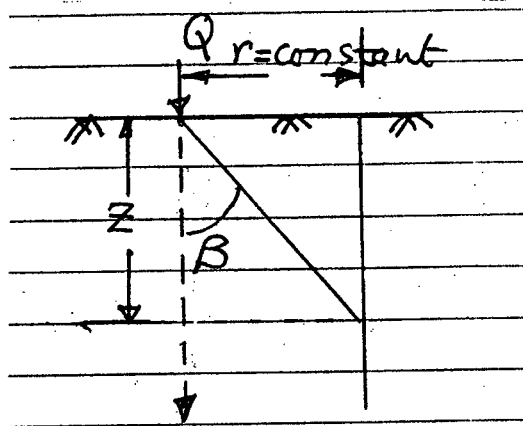

Fig 3. for Q No. 9(c)
- (b) A borrow soil has a natural water content of 10% at a bulk density of 1.8 Ton/m3. The soil is used for an embankment to be compacted at 18% moisture content to a dry density of 1.85 Ton/m3. Determine the weight of water to be added to 10 m3 of borrow soil. How many cubic meters of excavation is required for 1.0 m3 of compacted embankment? (15)
- (c) For what value of  $\beta$  (Fig. 3) the magnitude of vertical stress will be maximum on a line at a constant radial distance,  $r$  from the axis of a vertical load,  $Q$ . Find also the maximum vertical stress on a line at  $r = 2 \text{ m}$  from the axis of a concentrated load of 20 kN. (15)